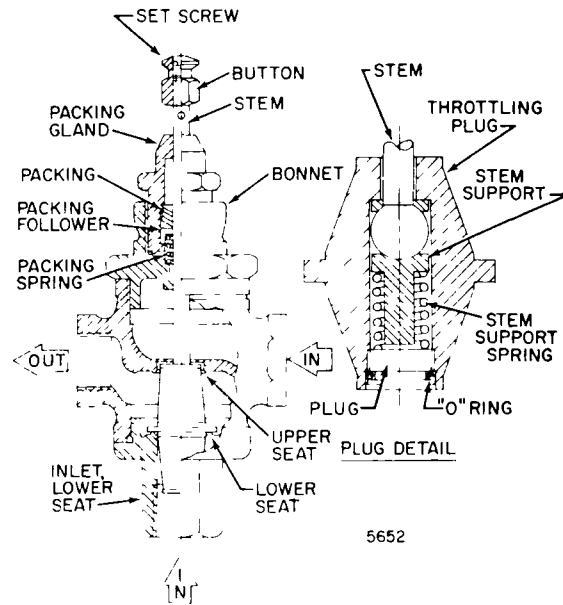

Fig 4 Cutaway of Typical V5013 Screwed Type Body
- b. Screwed Body Three-Way Valves (V5013A)—Unscrew the lower port from body to remove stem and plug. This requires removing valve from line (Fig 4).